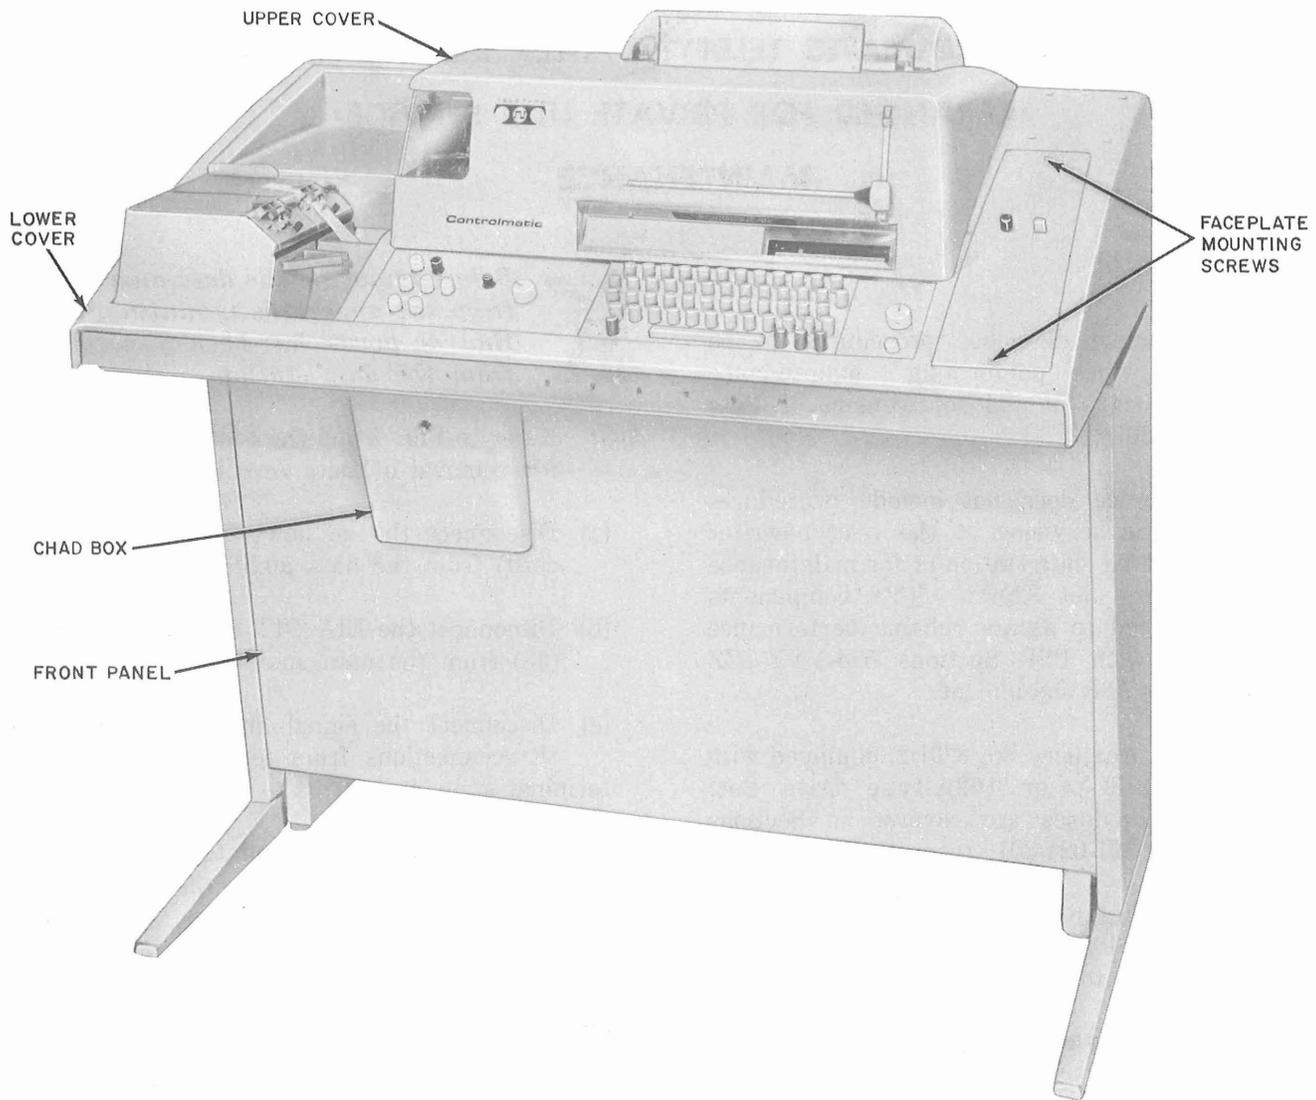

Fig. 1—CONTROLMATIC Model 35 TTY Arranged for Private Line Service
**2.01** Data Auxiliary Set 820D2 is mounted in the kneewell, behind the front panel of the TTY (see Fig. 1). To gain access to the set, proceed as follows: